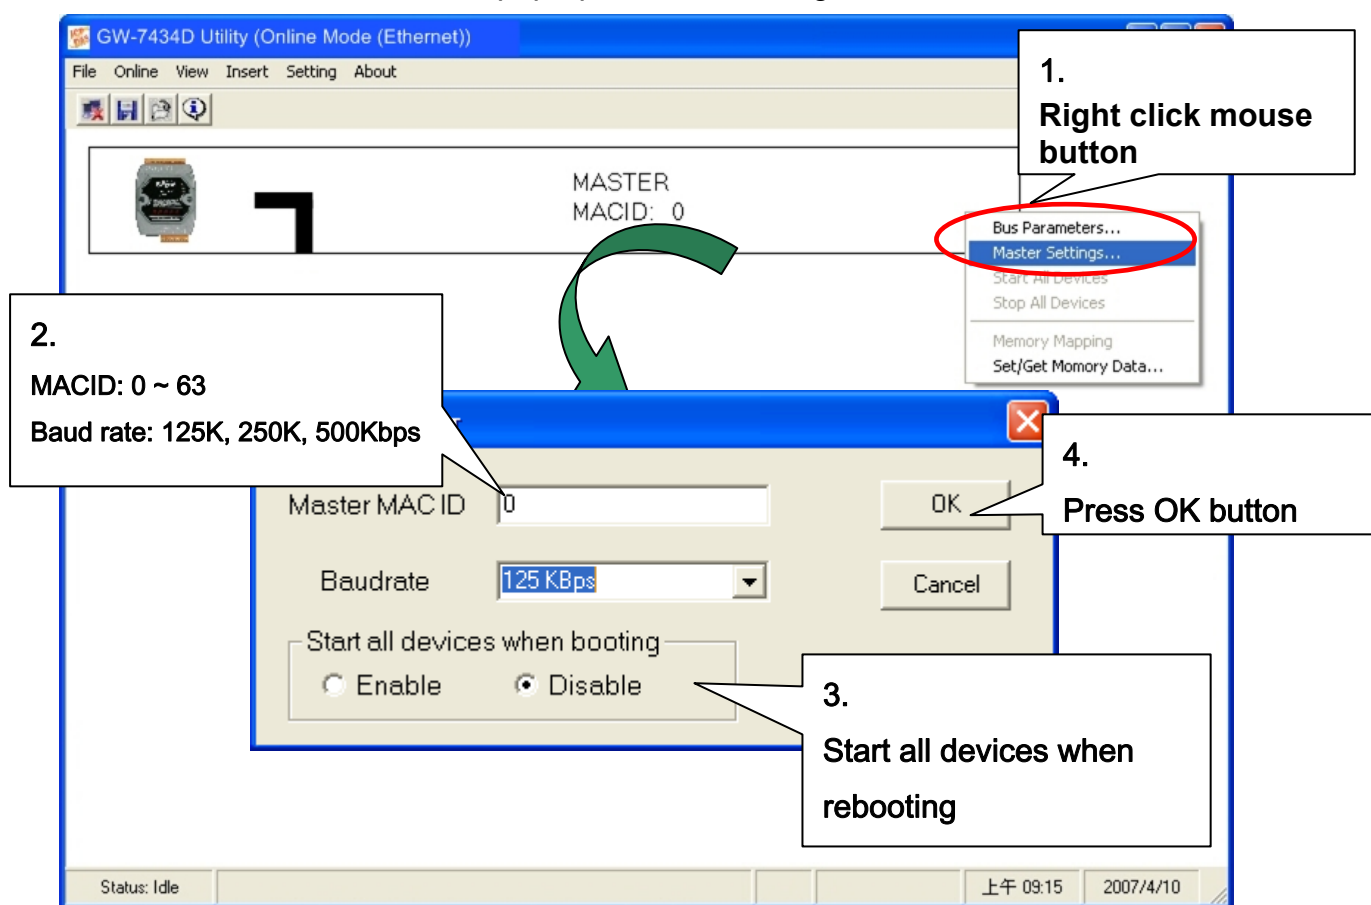

Figure 5-15: Setting of DeviceNet MACID and Baud rate
- 3 Select the "Setting" item on the menu bar, or click the mouse right-button on the master frame, then click the "Bus Parameters..." item. Then the "Bus Parameter" window will be pop-up. As shown in figure 5-15.